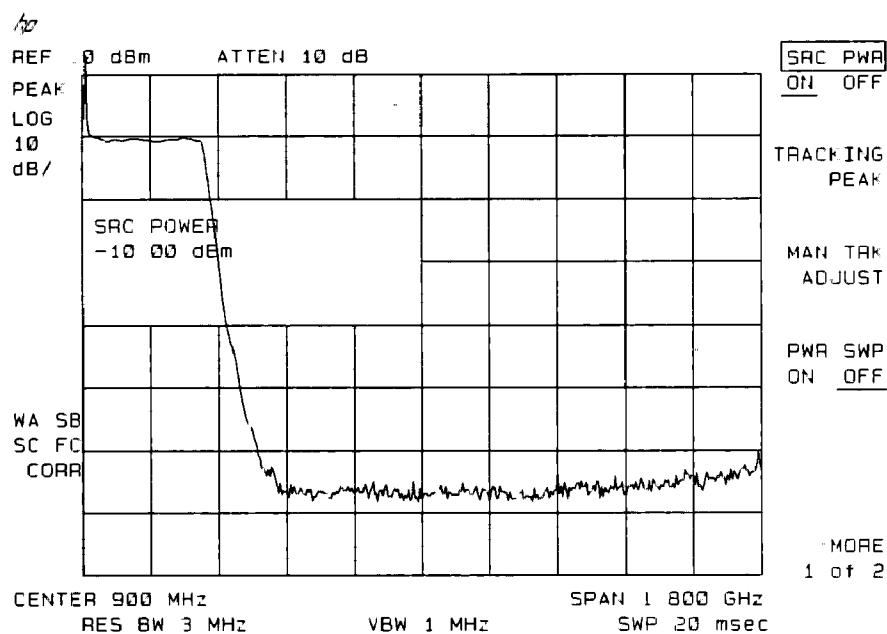

Figure 6-36. Tracking-Generator Output Power Activated
3. Activate the tracking generator menu by pressing **AUX CTRL**, **TRACK GEN**. To activate the tracking-generator power level, press **SRC PWR ON OFF** until ON is underlined. See Figure 6-36.